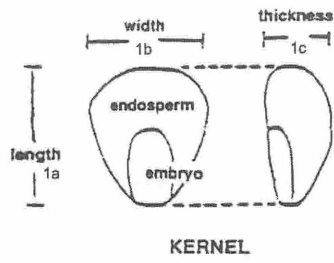

Figure 1
- 1a: Kernel Height (Length) – is the maximum measure from the attachment area at the base of the embryo to the top of the kernel (measurement 1a on Figure 1).
- 1b: Kernel Width – is the maximum measure along the cross-section of the kernel when it is in normal anatomical position along the cob (measurement 1b on Figure 1).
- 1c: Kernel Thickness – is the maximum measure perpendicular to the width measurement (measurement 1c on Figure 1)